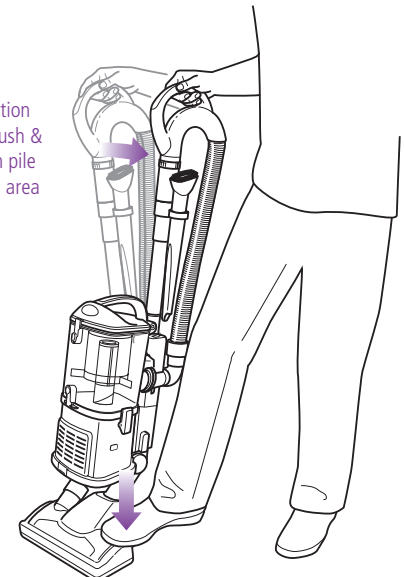

Fig. 13
- 4 Gently press the floor nozzle down with your foot while you grasp the handle and tilt it back towards you. (Fig. 13)